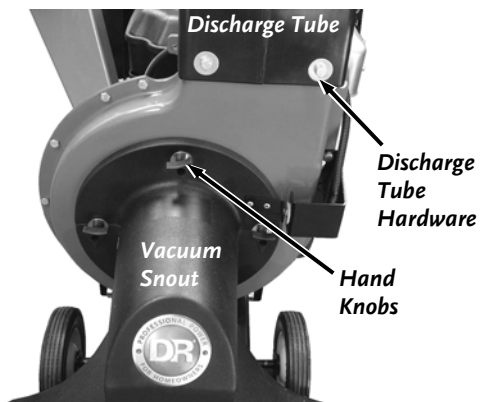

Figure 24
1. Remove the four Hand Knobs that secure the Vacuum Snout and remove the Snout (**Figure 24**).